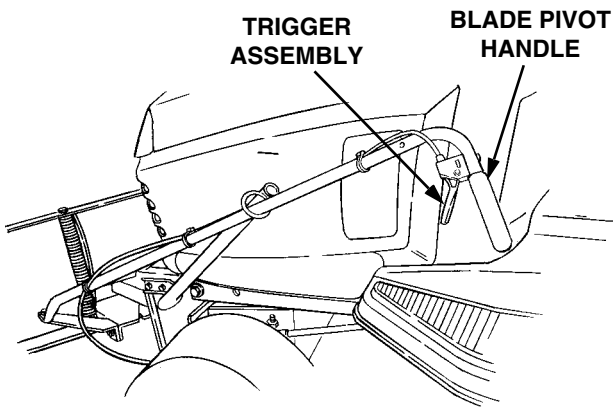

Figure 17
1. Blade angling. Refer to Figure 17 and proceed as follows: